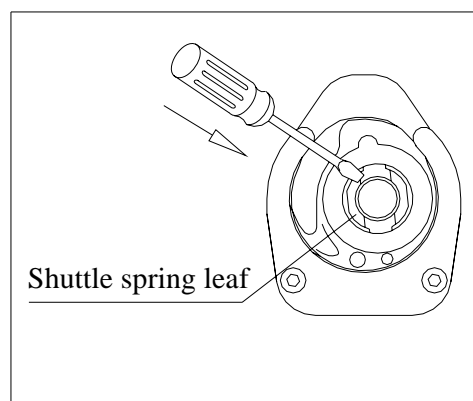

Fig.8
(3) If the lower thread is too tight, flatten the hem of the spring leaf with screwdriver (Fig.8).
(4) Make sure that the spring leaf is not so flat that it can't get in touch with the shuttle. As a result, the lower thread can't be adjusted.